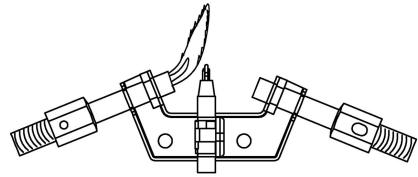

Figure 20 – Incorrect Pilot Flame Pattern
- Figure 20 shows an incorrect pilot flame pattern. The incorrect pilot flame is not touching the thermocouple. This will cause the thermocouple to cool. When the thermocouple cools, the heater will shut down.
- If the pilot flame is incorrect, as shown in Figure 20. Turn heater off (see "To Turn Off Gas to Appliance," page 14) See *Troubleshooting*, page 15 through 17.